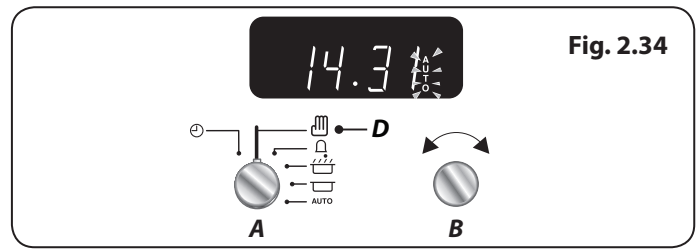

Fig. 2.34
5. Once the specified time has elapsed it will emit an alarm and the Multifunction Oven will stop working. The 'Cooking' symbol on the display will disappear and the word **'AUTO'** will flash (**Fig. 2.34**).